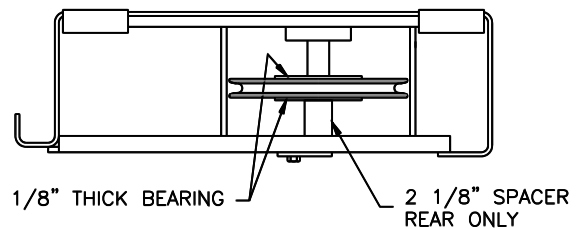

Fig 5 – Rear Single-Stack (idler runway)
- 6) Remove the four (4) cross beam sheaves (one sheave from each end) and the two idler runway sheaves (also one sheave from each end). The runway sheave pins do not need to be removed, just lowered enough to remove the sheaves.
- 11) Reinstall the idler runway sheaves, with one plastic bearing above and below each sheave per figures 5 & 6. **Note:** use one 2 1/8" long spacer at the idler rear sheave only.